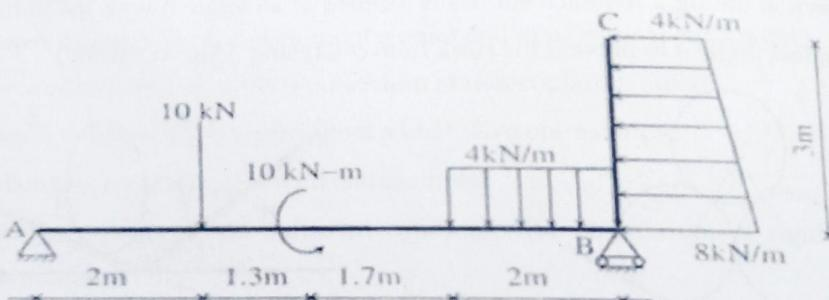

Fig 2.92
- 9) Find reactions at A and B for a bent beam ABC loaded as shown in fig 2.92. (Ans: $H_A=18\text{kN}$, $V_A=13.15\text{kN}$, $R_B=4.85\text{kN}$.)